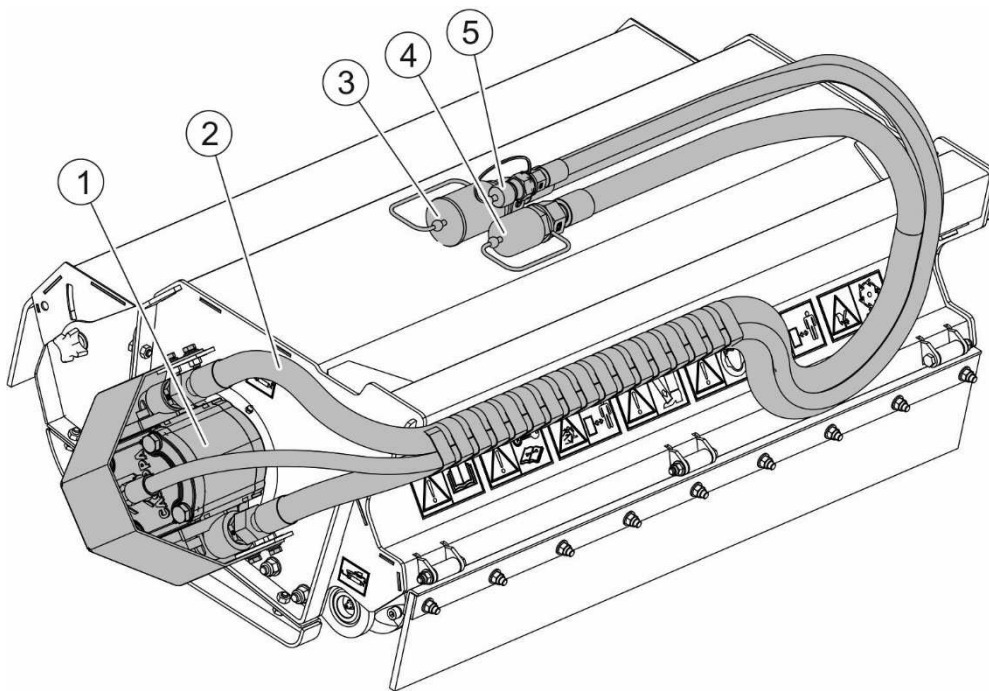

FIGURE 3.2 Drive transmission.
(1)- hydraulic motor; (2)- hydraulic lines; (3)- head supply quick coupler; (4)- head return quick coupler; (5)- free drain coupler.
The cutting unit of mowing head is driven by hydraulic motor (1) (FIGURE 3.2) that is supplied through quick couplers (3) and (4) by hydraulic lines (2) from the multifunction arm. Hydraulic line with free drain quick coupler (5) should be connected to the free drain quick coupler of the multifunction arm. The torque from hydraulic motor (1) is transmitted directly to the cutting shaft of the mowing head.